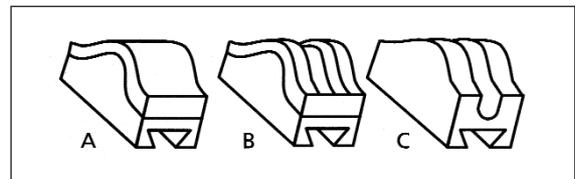

Figure 2
1. Choose an adaptor head for the type of fibre to be tested. The KI6150 is supplied with three adaptors (as shown in Figure 2); (A) foam covered, to accommodate 900 unbuffered fibre; (B) smooth-surfaced with foam perimeter, for use with ribbon fibre or a 250um coated fibre., and (C) slotted, for 3mm jacketed fibre (ie, pigtails and jumpers) or loose tube fibre.